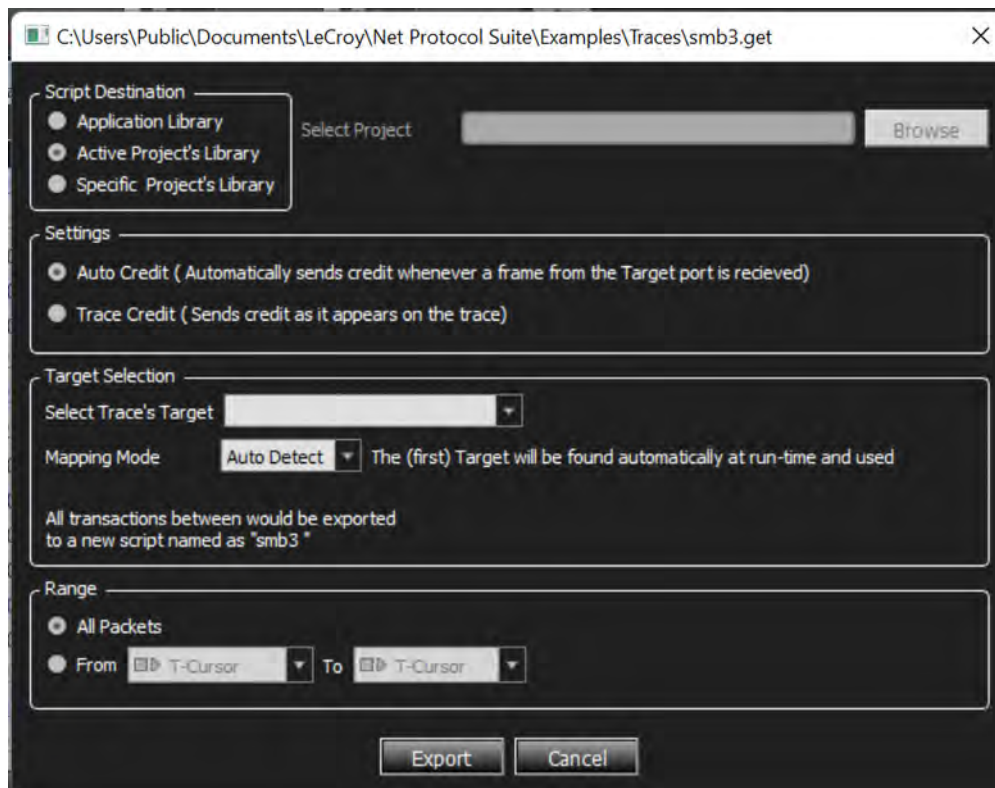

Figure 8.39: Export to Exerciser Script Dialog
3. The Export to Exerciser Script Dialog displays, as shown in Figure 8.39.